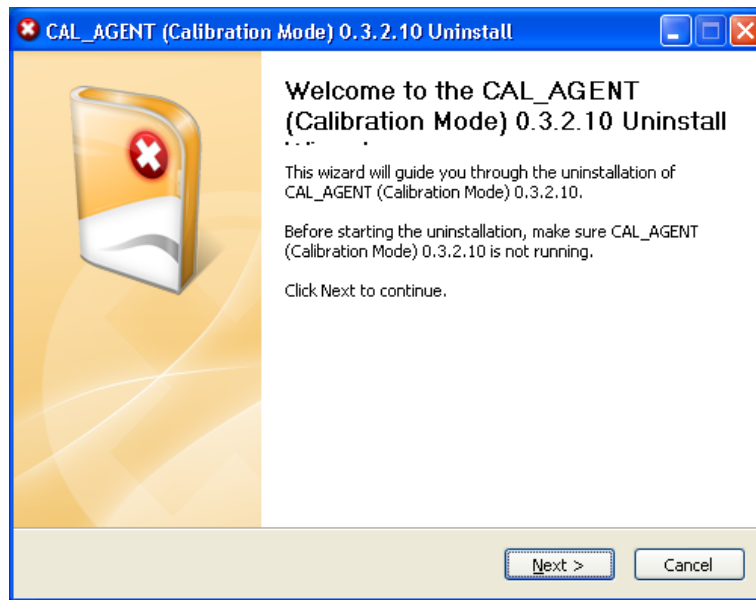

Figure 2-41: CAL_AGENT Uninstall Wizard – Welcome
2. The *CAL_AGENT Uninstall Wizard Welcome* window displays, as shown in Figure 2-41. Click **Next** to proceed.